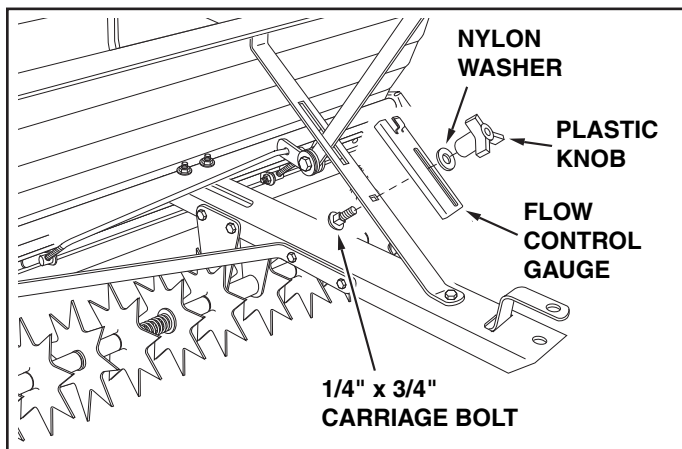

FIGURE 6
14. Assemble the flow control gauge to the hopper brace using the 1/4" x 3/4" carriage bolt, a nylon washer and the plastic knob. See figure 6.